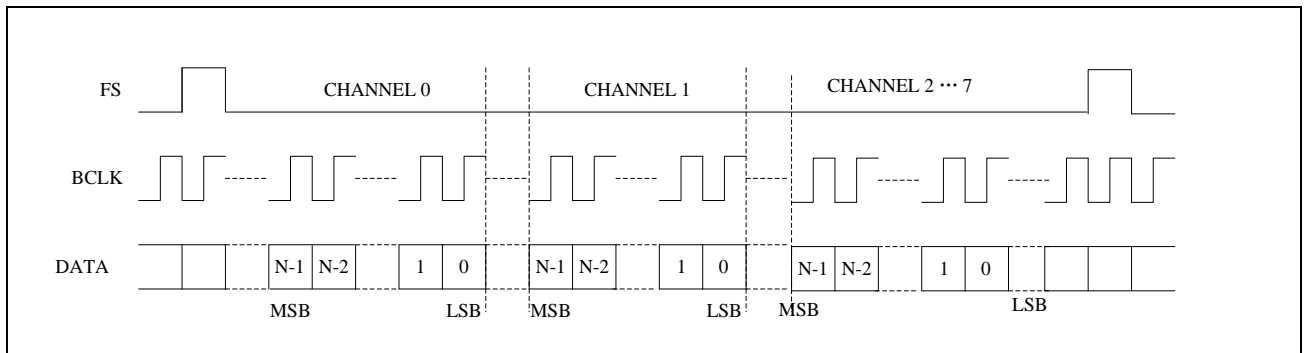

Figure 15 PCM Time Slot Audio Data
Normally, the DAC data is clocked immediately after the Frame Sync (FS); however, in PCM Time Slot Mode, the audio data can be delayed. These delays can be seen before the MSB in **Figure 15**.